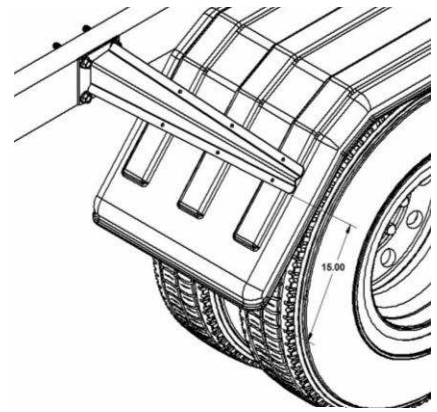

Figure 8
- B. If possible, position the mounting brackets so they are located within 15" of the bottom of the fender. This protects against wind blowing the leading edge of the fender back into the tire (Figure 8).